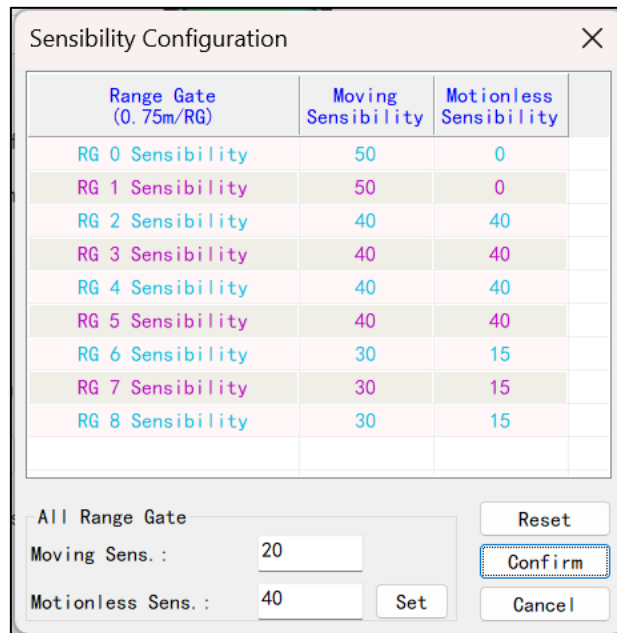

Figure 4-3 Sensibility Configuration
Step 1: After the Connect Device operation, click the **Sensi...** button and a Sensibility Configuration window will appear, as shown in Figure 4-3.